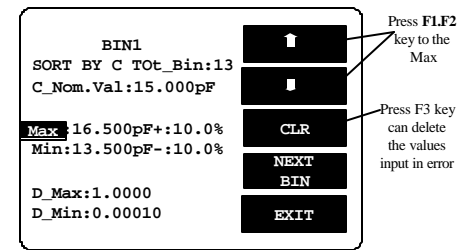

Figure 8-17
- Press \downarrow key. Please refer to Figure 8-17 below.